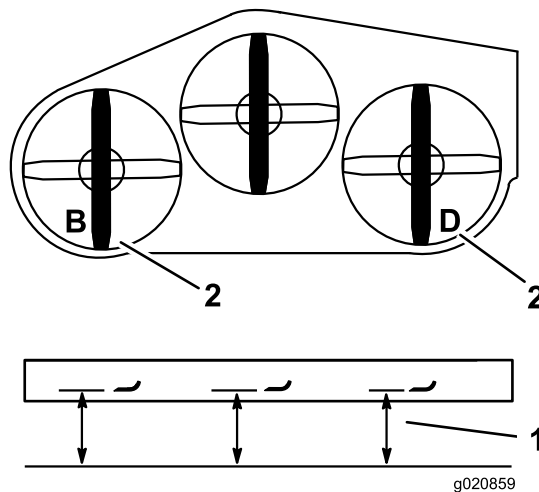

**Figure 83**
1. Position the right blade front-to-rear (Figure 83).
2. Measure the right blade at the **C** location, from a level surface to the cutting edge of the blade tip and record this measurement (Figure 83).
3. Measure the right blade at the **D** location, from a level surface to the cutting edge of the blade tip and record this measurement (Figure 83).
4. The mower blade should be a 6 to 10 mm (1/4 to 3/8 inch) lower at position **C** than at position **D** (Figure 83). If it is not correct, proceed to the following steps.